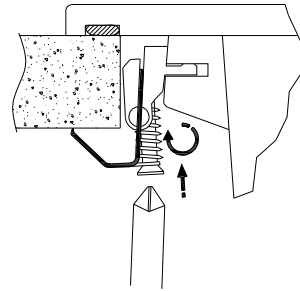

Fig 3.
- Fix the sink to the worktop by tightening the screws on the fixing clips clockwise (fig. 3) using a crosshead screwdriver, the sink frame will pull down tight and flat to the top surface to the worktop.